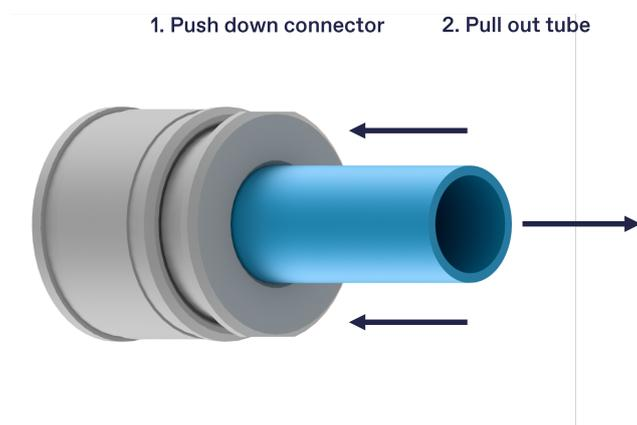

Figure 19: Disconnecting tubes/plugs from quick-connectors
13. Remove the plug by pushing the quick-connector (see Figure 19 on how to handle a quick-connector) and store the plug in a dust-free environment.